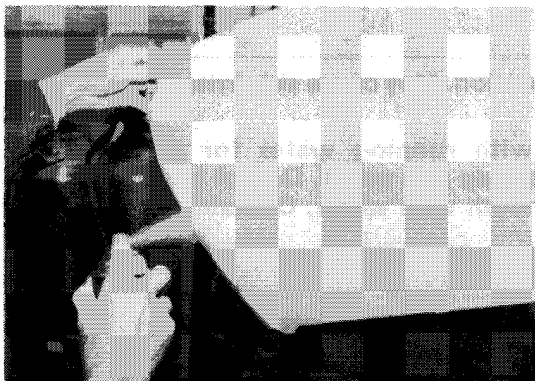

Figure 5-8
8. Paint the repaired area with matching spray paint available from CLUB CAR. Hold the can about 30-35 centimeters (12-14 inches) away from repaired surface and coat with light, even strokes (Figures 5-8 and 5-9). Additional coats may be required.